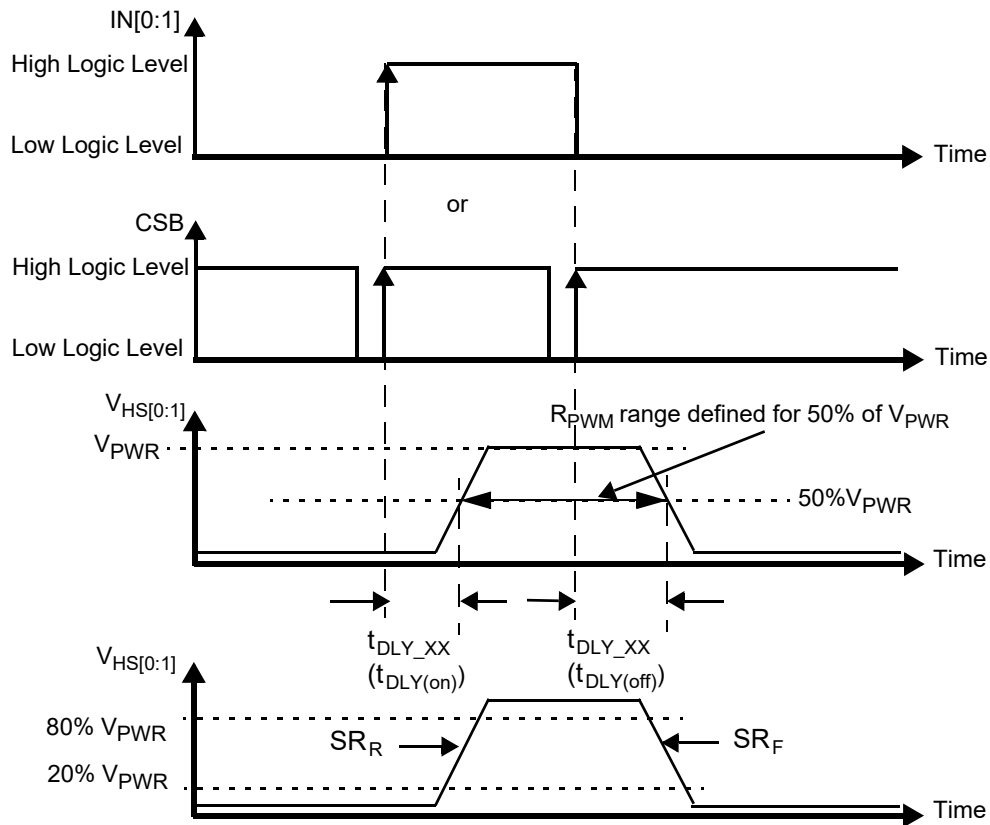

Figure 4. Output voltage slew rate and delay
27. Rising and Falling edge slew rates specified for a 20 % to 80 % voltage variation on a 10.0  $\Omega$  resistive load (see Figure 4).
29. Time required to switch off the channel after detection of overtemperature (OT), overcurrent (OC), SC or UV error (time measured between start of the negative edge on the FSB pin and the falling edge on the output voltage until  $V(\text{HS}[0:1]) = 50\%$  of  $V_{PWR}$ ).